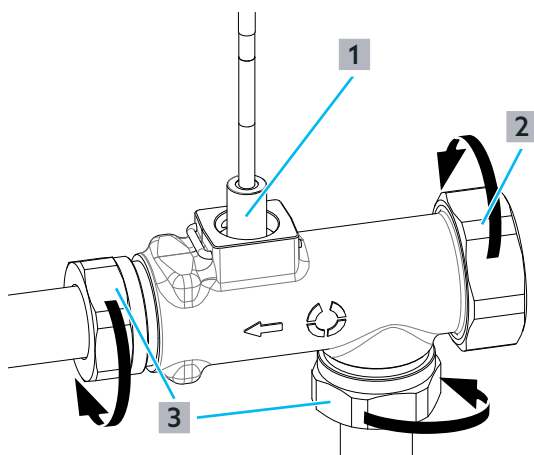

Fig. 24: Installing the volume flow sensor
- 10 Screw the sealing cap ((2) in Fig. 24 on page 31) tightly onto the circulation connection.
- 12 Fit the volume flow sensor (1) onto the pipes and tighten the union nuts (3) of the volume flow sensor.